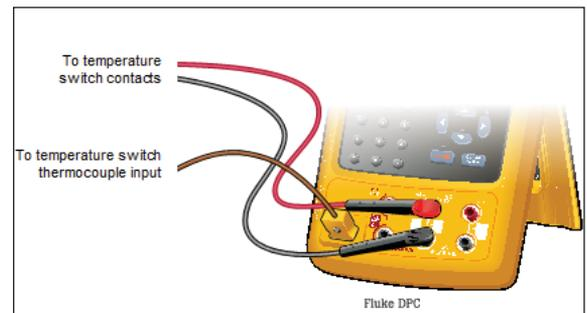

Figure 3. Connecting the DPC.
3. Connect the DPC, per Figure 3.